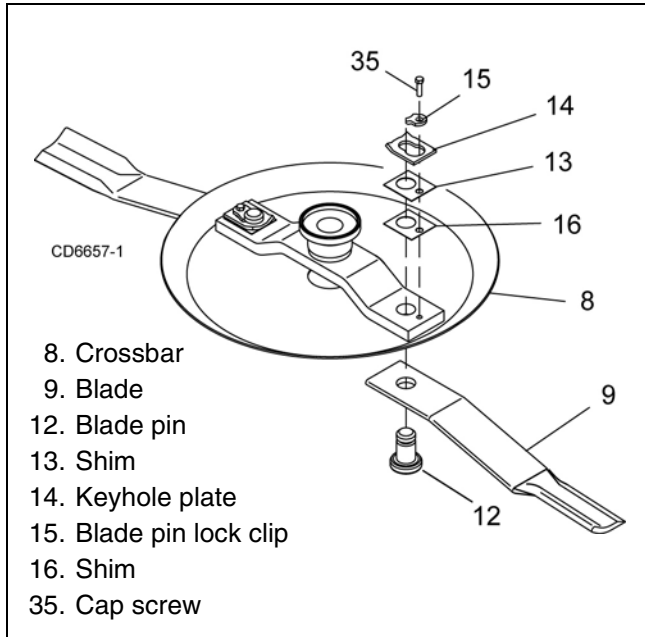

Figure 20. Blade Removal (BB84X Shown)
2. To make crossbar removal easier, remove blades as shown in Figure 20.